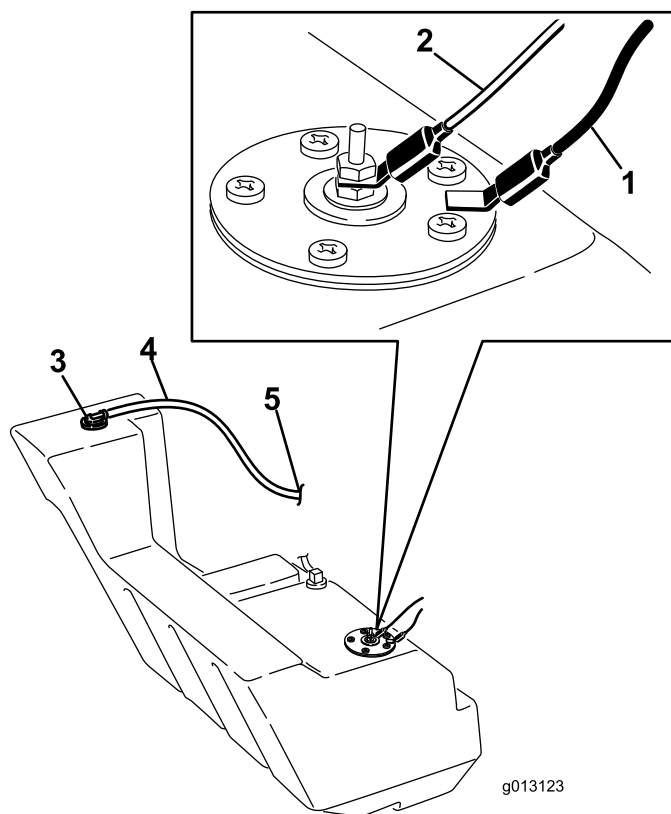

Figure 64
11. Disconnect the 2 wires leading to the right side of the tank (Figure 64).
20. On the right side of the tank, connect the orange wire to the center post and the black wire to the outside post (Figure 64).